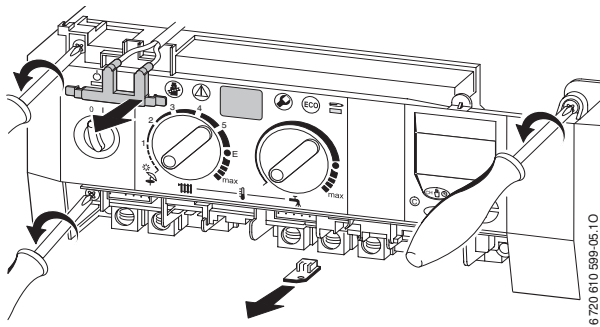

Fig. 56
- ▶ Remove two fixing screws from the control box. Refer to fig. 56.